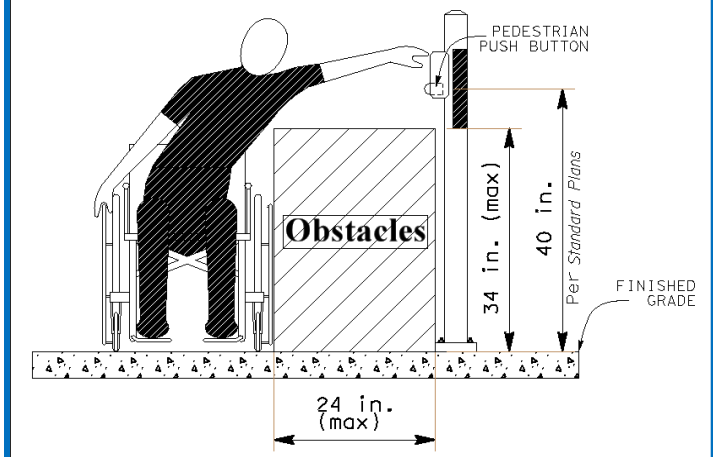

Figure 17 High Side Reach (ADAAG)
- If the pedestrian push button requires a side reach, obstructions at the bottom cannot extend more than 24 inches from base. For the exact height of the button, refer to the *Standard Plans*. (See Figure 17.)